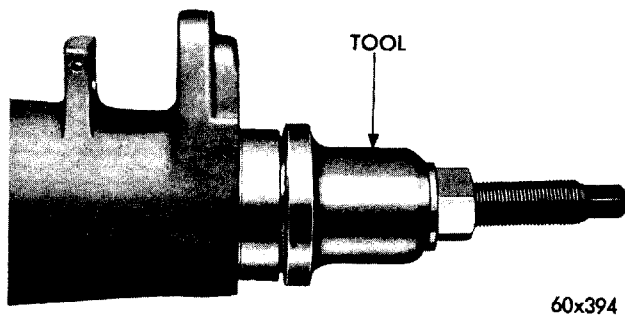

Fig. 24—Installing Output Shaft Bushing
(2) Slide a new bushing over ground end of Tool C-3751, then drive the bushing into housing with the tool. Make sure oil hole in bushing aligns with oil slot in the housing.
(3) Install the cup on the tool followed by the nut. While holding the screw from turning, tighten the tool nut to draw the burnisher through the bushing (Fig. 24).